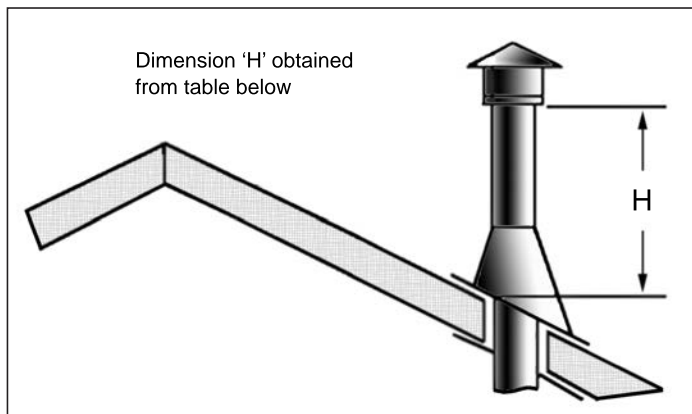

Figure 62: Height of Vertical Termination; Reference Table 7
- Step 8.** Continue to add pipe sections until the height of the vent cap meets the minimum code requirements. Refer to Figure 62 and Table 7. Note that for steep roof pitches, the vent height must be increased. In high wind conditions, nearby trees, adjoining roof lines, steep pitched roofs, and other similar factors can result in poor draft, or down drafting. In these cases, increasing the vent height may solve the problem.
Table 7: Minimum 'H' for Figure 62.